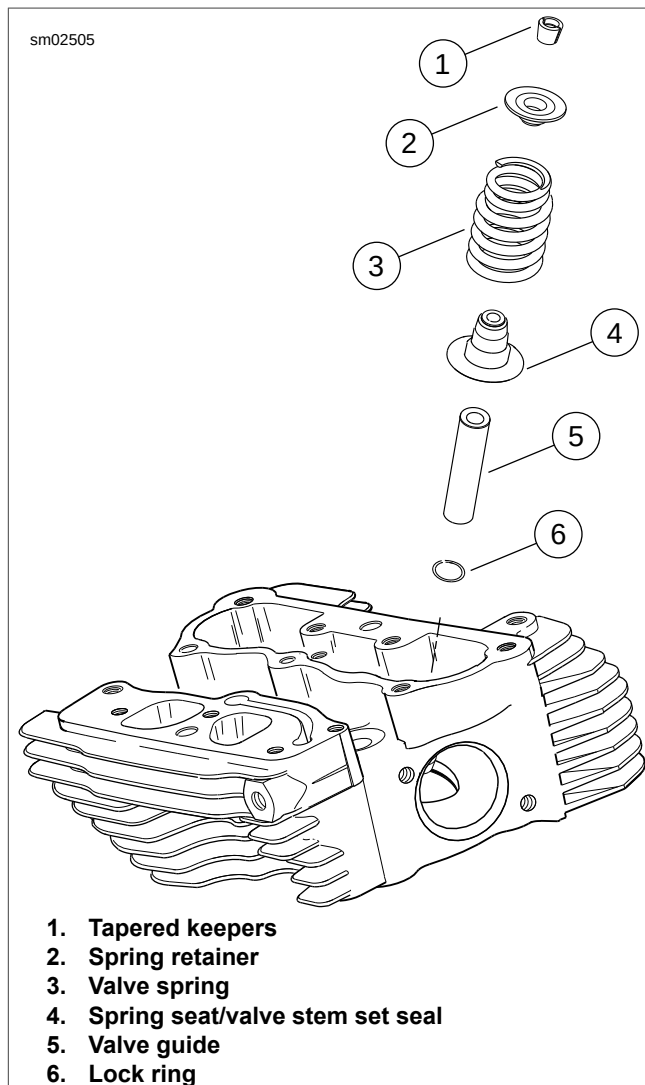

Figure 3-56. Valve Assembly
10. See Figure 3-56. Apply a liberal amount of SCREAMIN' EAGLE ASSEMBLY LUBE to valve stem tip and keeper groove (1).
11. With the smaller diameter coils topside, install the valve spring (3). Place the spring retainer (2) on top of the valve spring.